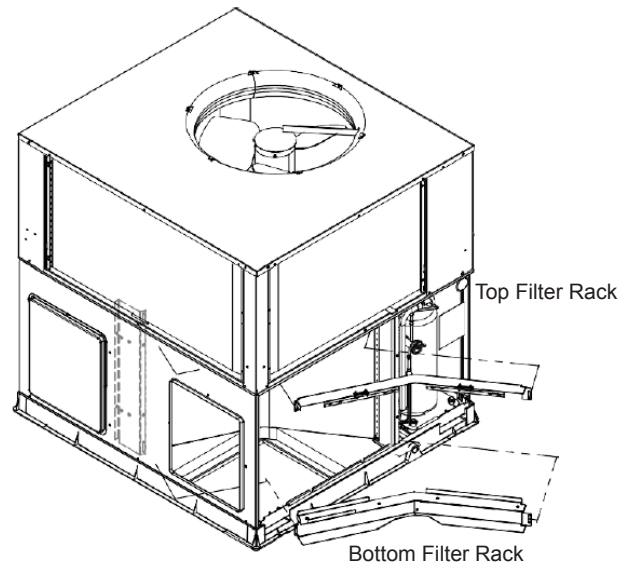

Fig 2a. Filter Rack Installation
4. Install the top piece of the Filter Rack in the RA Cavity next to the Evaporator Coil - See Fig. 2a, b, and c. Using the provided Tek Screws, attach the left and right sides to the coil frame.
5. Install the bottom piece of the Filter Rack in the RA Cavity next to the Evaporator Coil - See Fig. 2a, b, and c. Using the provided Tek Screws, attach the left and right sides to the coil frame.